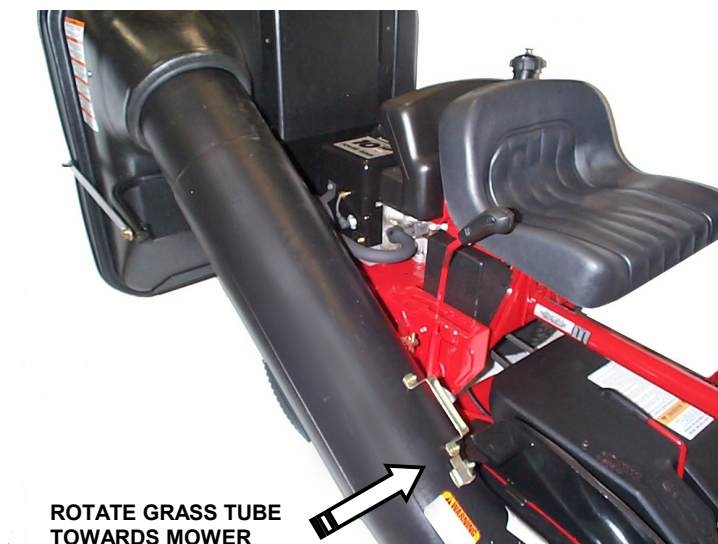

FIGURE 1.19
D. Slide lower end of Grass Tube over adapter and rotate towards mower to secure Handle Base under Latch. See Figure 1.19.